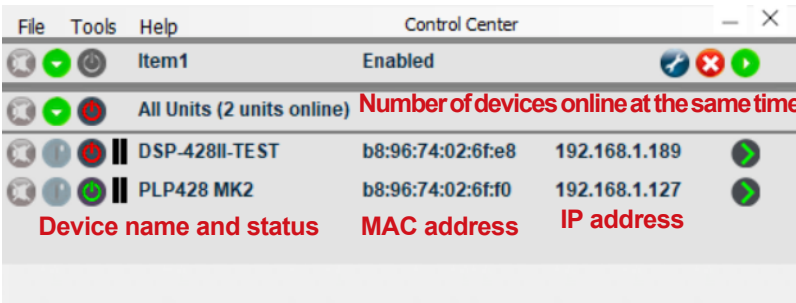

Figure-1
The best connection method is to connect the DSP-428II and the computer through a wired or wireless router, so that the IP of both will be automatically assigned as 192.168.XXX.XXX. If you use a switch to connect, you can also connect the LAN port of the router to the LAN port of the router. The IP addresses of all devices on the switch will be assigned 192.168.XXX.XXX, as shown in Figure-1 192.168.1.188 in Control Center .
***MAC address:** The MAC address is an address used to confirm the location of a network device. In the OSI model, the third network layer is responsible for IP addresses, and the second data link layer is responsible for MAC addresses. The MAC address is used to uniquely identify a network card on the network. If a device has one or more network cards, each network card needs and will have a unique MAC address. The display image of MAC address is shown in Figure-1 "b8:96:74:02:6f:7b" in ControlCenter
When the device is correctly connected to the computer through the LAN, the first screen when opening the DSP CONTROLLER will display the Control Center and the various basic statuses of the currently online devices are shown in Figure-1.